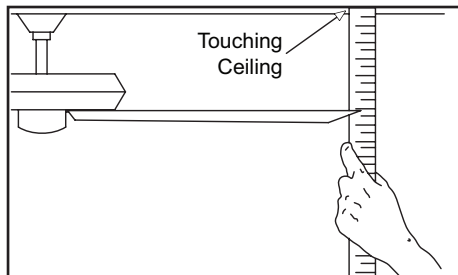

Figure 15
2. Most fan wobble problems are caused when blade levels are unequal. Check this level by selecting a point on the ceiling above the tip of one of the blades. Measure from a point on the center of each blade to the point on the ceiling. Measure this distance as shown in Figure 15. Rotate the fan until the next blade is positioned for measurement. Repeat for each blade. Measurements deviation should be within 1/8". Run the fan for 10 minutes.